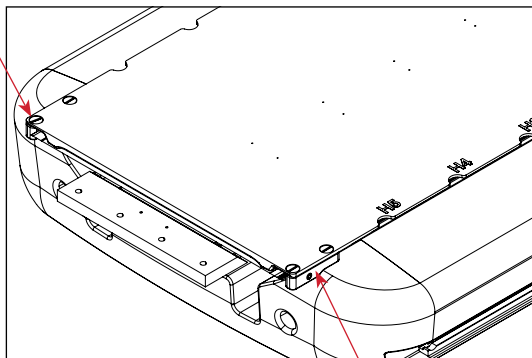
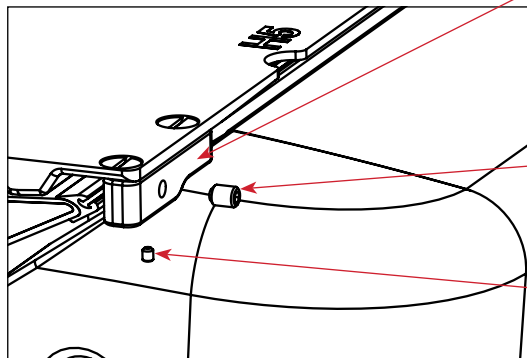

Fig. 17
Fig. 18
2. Align the overlay on the cradle by tightening the  $\frac{3}{8}$ -16" set screws on both the left and right cams as needed using a  $\frac{3}{16}$  inch Allen wrench (Fig. 17 and Fig. 18).